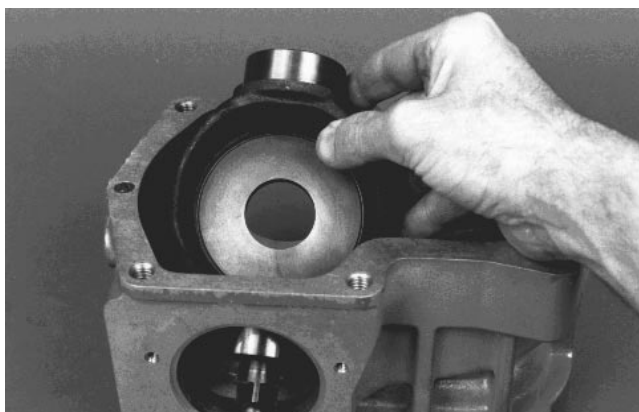

Figure 56
17. Tilt and lift swashplate from housing (Fig. 56).